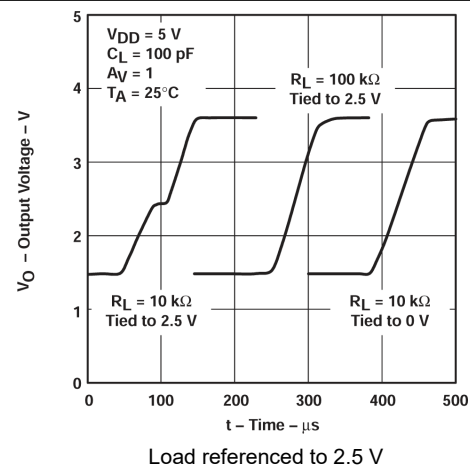

Figure 5-24. Voltage-Follower Large-Signal Pulse Response
- *Where the load is referenced.* When the load is referenced to either rail, this condition does not occur. The distortion occurs only when the output signal swings through the point where the load is referenced. Figure 5-24 illustrates two 10-k Ω load conditions. The first load condition shows the distortion seen for a 10-k Ω load tied to 2.5 V. The third load condition shows no distortion for a 10-k Ω load tied to 0 V.
- *Load resistance.* As the load resistance increases, the distortion seen on the output decreases. Figure 5-24 illustrates the difference seen on the output for a 10-k Ω load and a 100-k Ω load with both tied to 2.5 V.